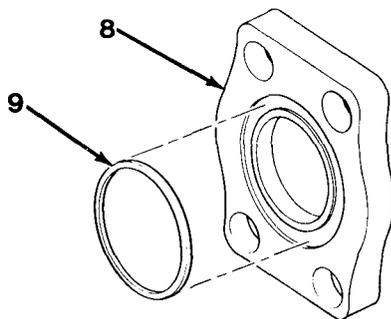

Figure 16-6
7. Remove O-ring (9) from split flange adapter (8, Figure 16-6).